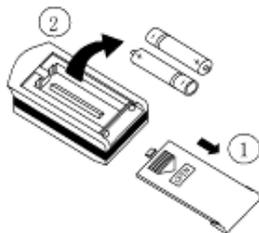

Fig 8.1
- 1.Slightly to press the place with  along the arrowhead direction to push the back cover of remote controller.(As show in Fig 8.1.)